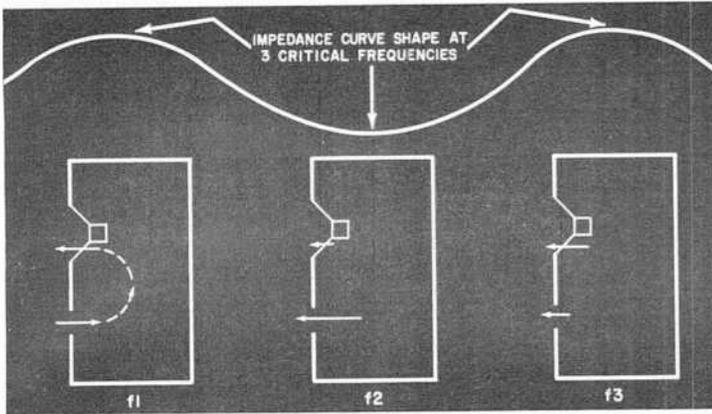

Fig. 3. Behavior of cone and port air at three critical frequencies. Lengths of arrow are rough indication of relative outputs from each.
Fig. 3. Time-setting "hooks" are shown in (A). The hooks should clear the negative pad when not depressed. The cell clip is shown at (B) and is made of 0.01" brass sheeting.
At lower frequencies, the air in the box acts progressively "stiffer." Finally, at the lower critical frequency, the air in the box and the air in the port move as if all were connected in series with the cone (Fig. 3). As the cone, largely undamped at this frequency, moves in, the air in the port moves out. The port radiation is 180° out of phase with the cone radiation. This, coupled with the normal drop in cone output below resonance, produces a frequency response curve that falls off rapidly at 18 dB/octave below the cutoff frequency. The cut-off frequency should be set low enough to give a satisfactory bass response.